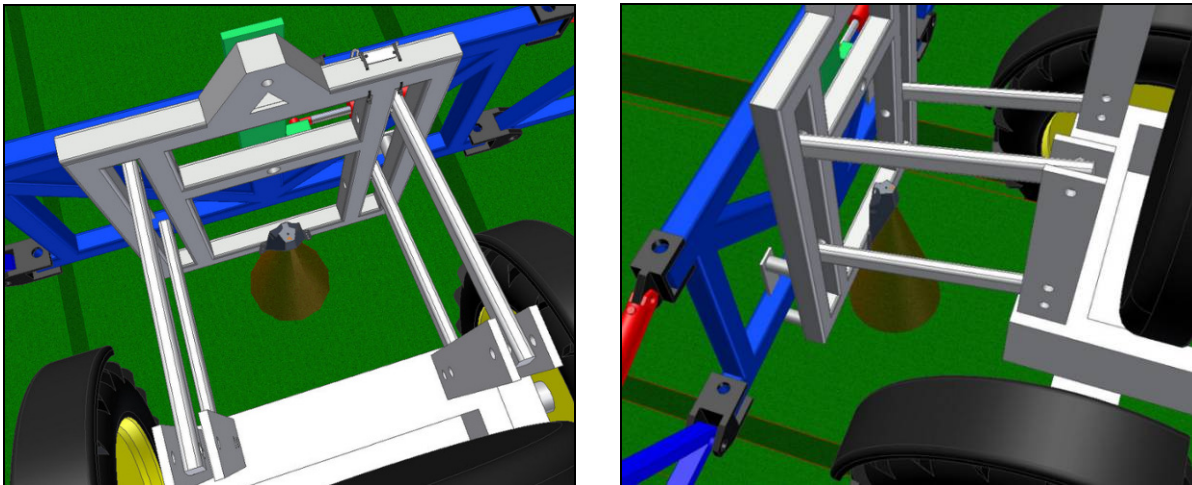

Figure 13: Example Mounting of the Main Lift Bracket
2. There are a variety of ways to mount the main lift bracket on most sprayers. The bracket should position the sensor approximately in the center of the sprayer, forward of the boom. An example of this mounting is illustrated in **Figure 13**.